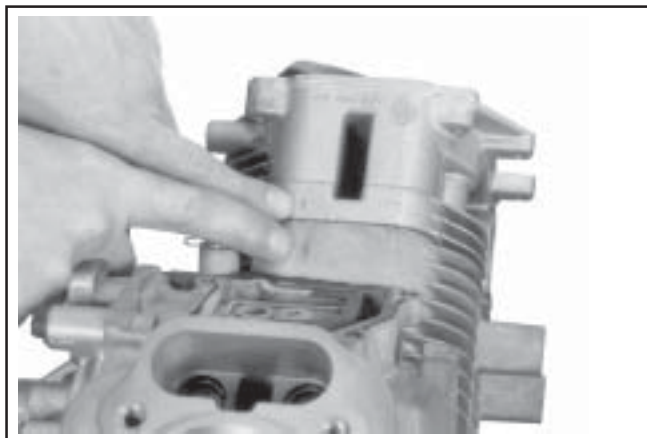

Figure 11-32. Match Numbers on Cylinder Barrel and Head.
NOTE: Hydraulic lifters should always be installed in the same position as before disassembly. The exhaust lifters are located on the output shaft (oil pan) side of the engine while the intake lifters are located on the fan side of the engine. The cylinder numbers are embossed on the top of the crankcase and each cylinder head. See Figure 11-32.
NOTE: Match the numbers embossed on the cylinder heads and crankcase. See Figure 11-32.
5. Install the cylinder head. Match the numbers on the cylinder heads and the crankcase. See Figure 11-32. Make sure the head is flat on the gasket and dowel pins.